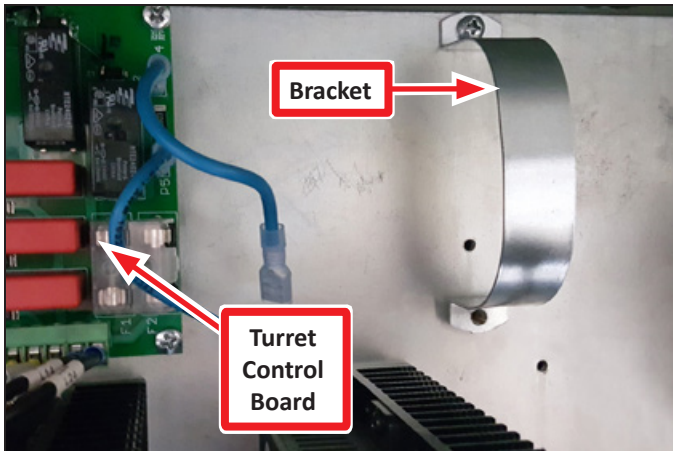

Figure 15
1. Use two M4 x 10 mm pan head screws to mount the capacitor and capacitor bracket on the back panel of the electrical cabinet (see **Figure 15**).